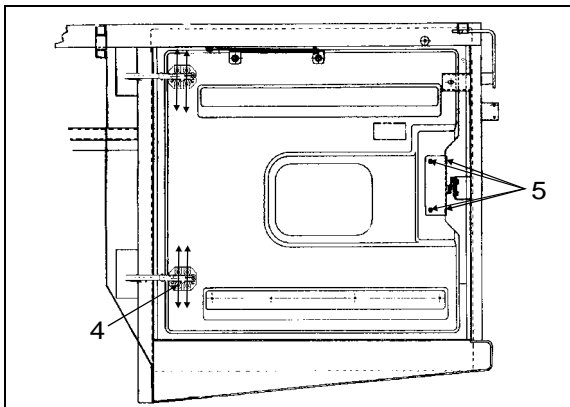

FIGURE 75: ENGINE COMPARTMENT R.H. DOOR 18197
8. Loosen screws (4, Fig. 75).